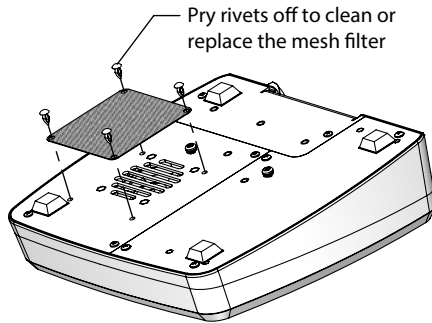

Figure 11: Removing Fan Filter
1. The fan filter is located on the bottom of the SD controller. Pry up the rivets holding the filter in place and squeeze the shank to remove, as shown in Figure 11.